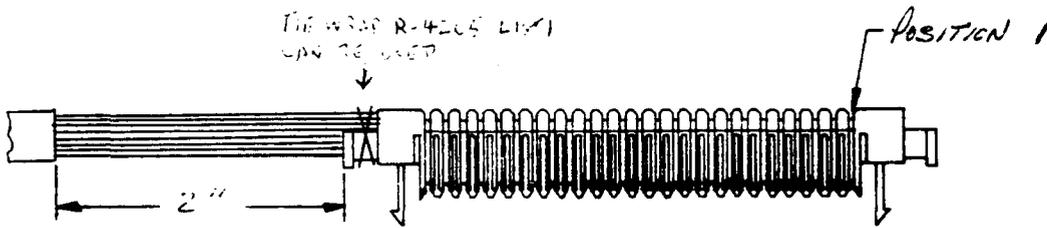

FIG 8
5.42 Dress cable into I.O. CAP and tie per Fig. 8.